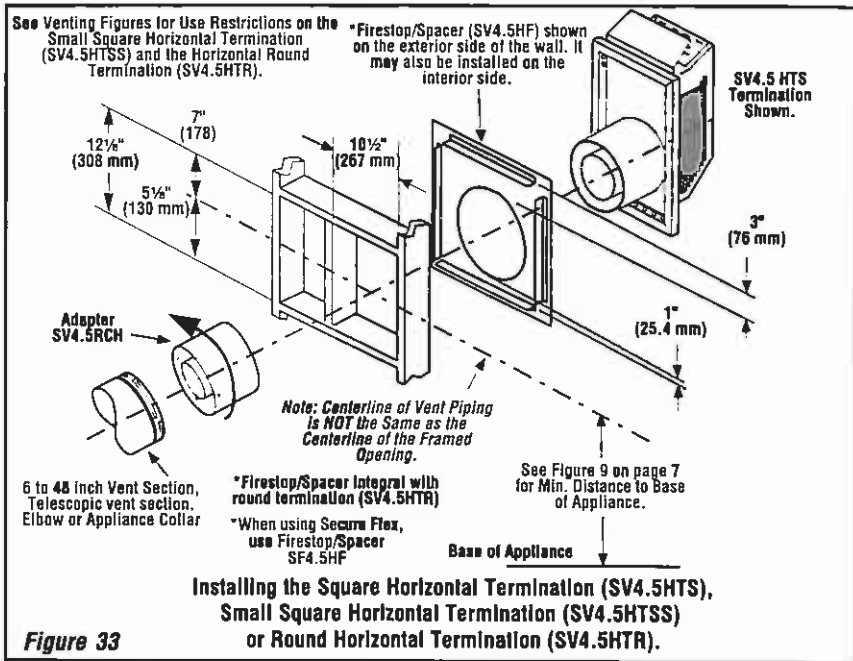

Figure 33
If the terminus of the last section is not within this distance, use the telescopic vent section SV4.5LA, as the last vent section. For wall thicknesses greater than that shown in Figure 33, refer to table 4 on page 17. This table lists the additional venting components needed (in addition to the termination and adapter) for a particular range of wall thicknesses.
K. Attach termination adapter - Attach the adapter (adapter - SV4.5RCH - provided with the termination) to the vent section or telescoping vent section, elbow or appliance collar as shown in Figure 33 in the same manner as any SV4.5 vent component (refer to Step E).
L. Install Firestop/Spacer at exterior wall - When using the square termination, install SV4.5HF (Secure Vent), SF4.5HF (Secure Flex) Firestop/Spacer over the opening at the exterior side of the framing, long side up, with the 3 inch spacer clearance at the top as shown in Figure 33, and nail into place.